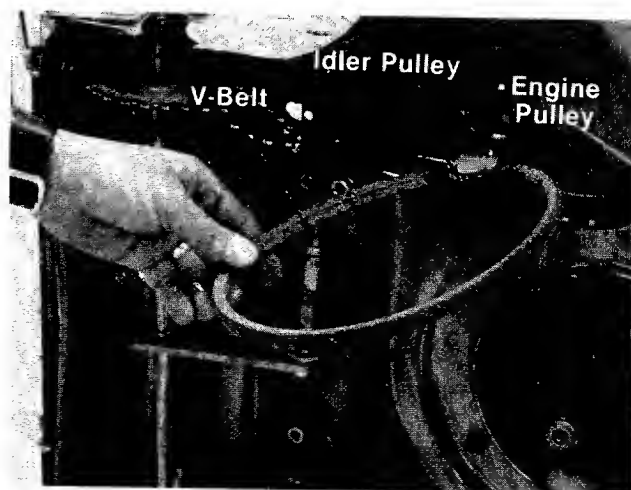

FIGURE 25.
12. Lift the V-belt off the engine pulley and idler pulley. See figure 25.